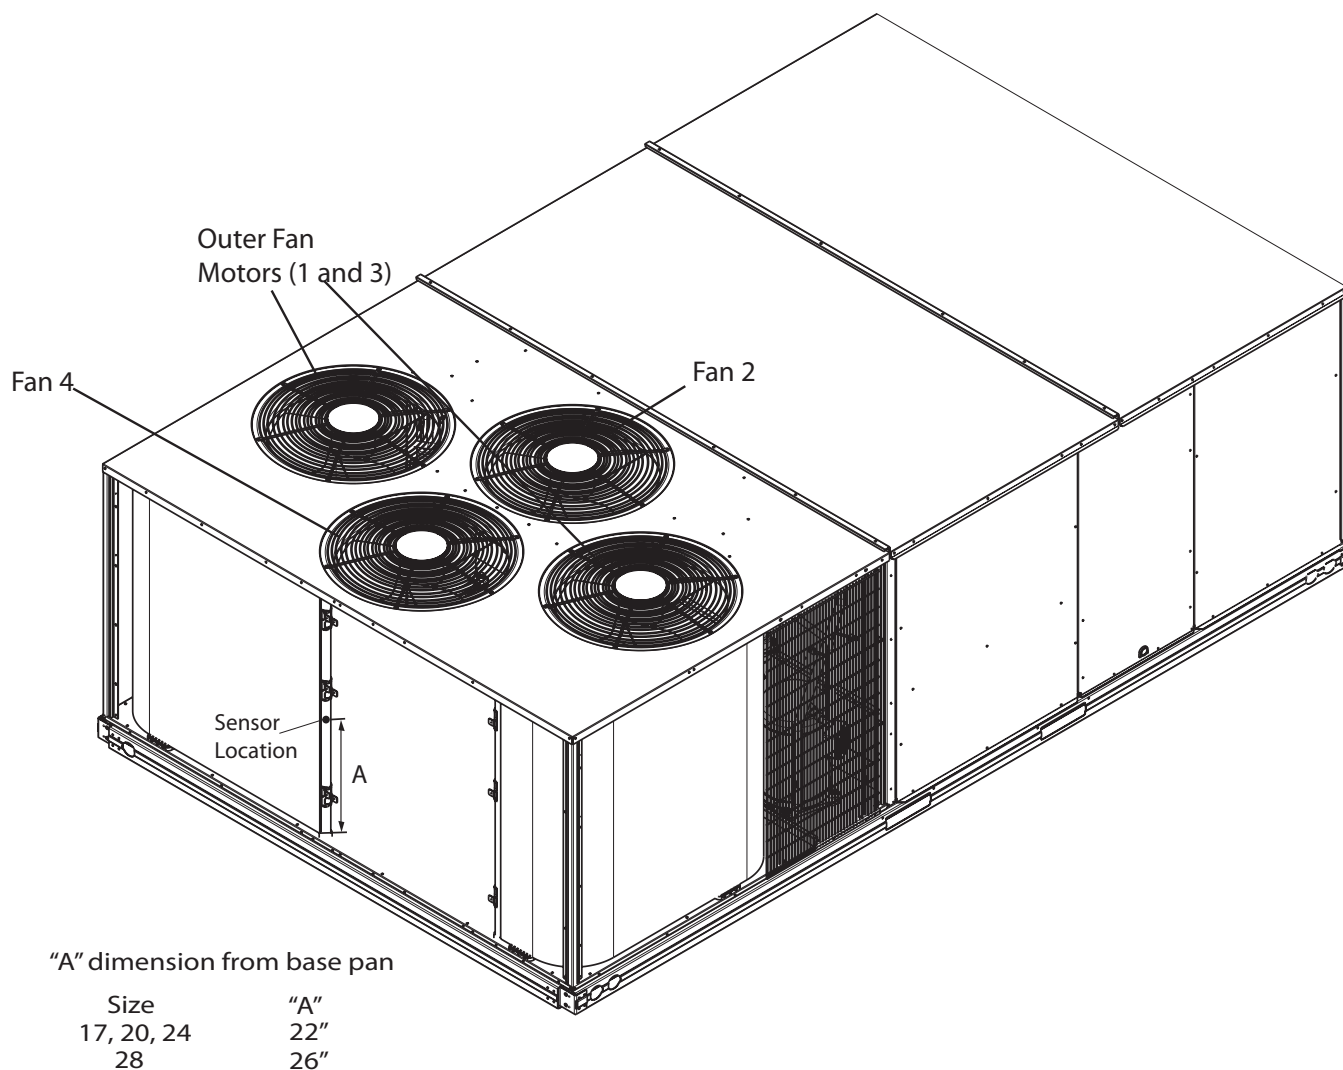

Fig. 6 - Sensor Location
7. Two of the outdoor motors must be replaced with motors from kit. On 3 fan and 4 fan units, these are the outer fan motors. (See Fig. 6.) Replace motors by unwiring brown, yellow and black wires. Motor closest to capacitor plate can be disconnected at capacitor and terminal block at motor furthest away from capacitor plate. There is a junction which can be accessed by removing panel opposite of blower access panel.
9. Route the sensor of the Motormaster through the grommet in partition that the LAS had been previously ran through. If the sensor is wired into the controller it may be easier to unwire the sensor and feed the wires from the outdoor section to the indoor. Route the sensor through the hole in the coil support. (See Fig. 6.)
10. Remove panel between hairpin end of coil and locate sensor on the header of the coil using wire tie provided. Locate sensor as shown in diagram. (See Fig. 6.)
16. Route the sensor of the Motormaster through the grommet in partition that the LAS had been previously ran through. If the sensor is wired into the controller it maybe easier to unwire the sensor and feed the wires from the outdoor section to the indoor. Route the sensor through the hole in the coil support. (See Fig. 6.)
17. Remove panel between hairpin end of coil and locate sensor on the header of the coil using wire tie provided. Locate sensor as shown in diagram. (See Fig. 6.)